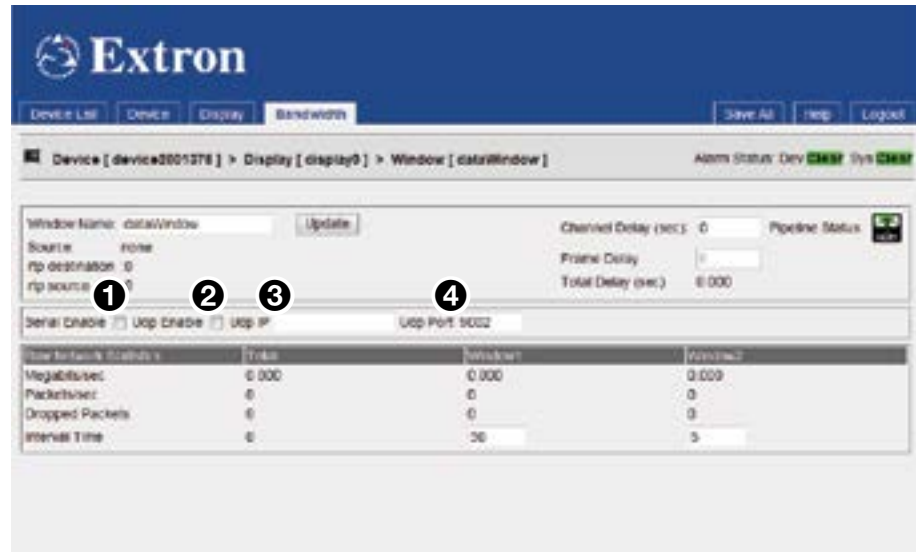

Figure 64. Bandwidth (data) Tab
2. Click the bandwidth **data** link (❷). The Bandwidth (data) tab opens. This is the same as the Bandwidth (audio) tab but has a Data Control panel (see figure 64):
3. If required, check the **Serial Enable** (see figure 64, ❶) and **Udp Enable** (❷) check boxes, and enter the Udp IP address (❸) and UDP Port number (❹). (For more information about these choices, see Decoder data Bandwidth tab on page 65.)